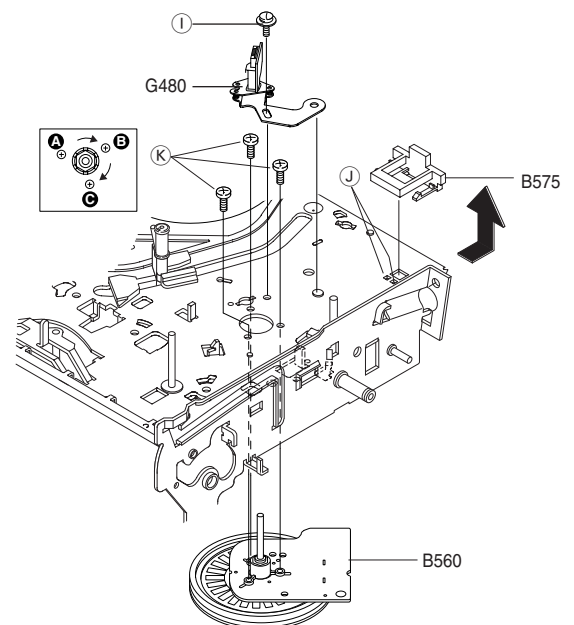

Fig. 8
- Undo the screw **I** (Fig. 8) then remove the AC combi head (G480). Reassembly is carried out in reverse order.
- Disengage the locking lugs **J** (Fig. 8) then remove the damper (B575) in direction of the arrow.
- Undo the 3 screws **K** (Fig. 8).
- Remove the capstan motor (B560, Fig. 8) from the drive mechanism. Make sure that the capstan does not touch greased parts of the drive mechanism. Reassembly is carried out in reverse order. Make sure that the capstan is free of grease (clean it if necessary).